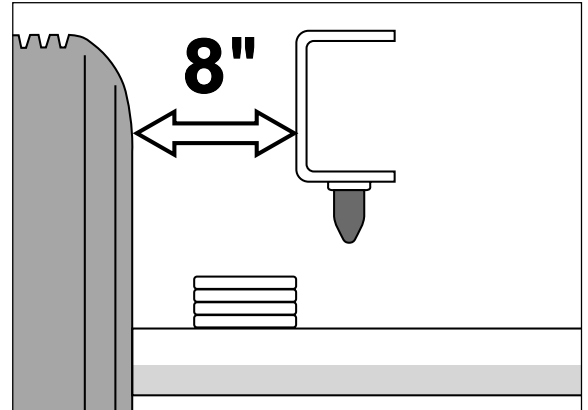

Figure 3
3. Measure the distance between the frame and the tire. This kit requires a minimum of 8” of clearance for a fully inflated air spring (Figure 3).